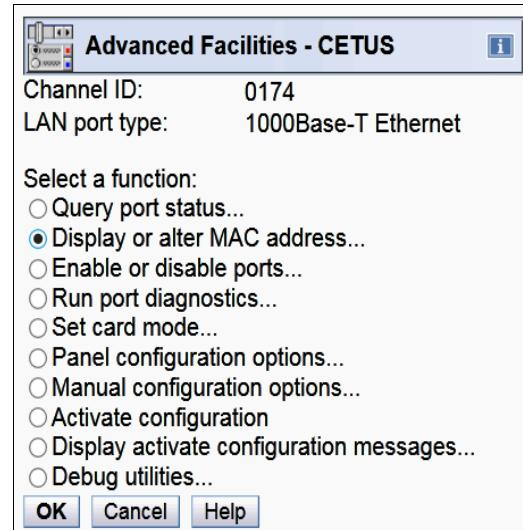

Figure 6-23 Display or alter MAC address
- The Advanced Facilities window opens (Figure 6-23). Select **Display or alter MAC address** and then click **OK**.